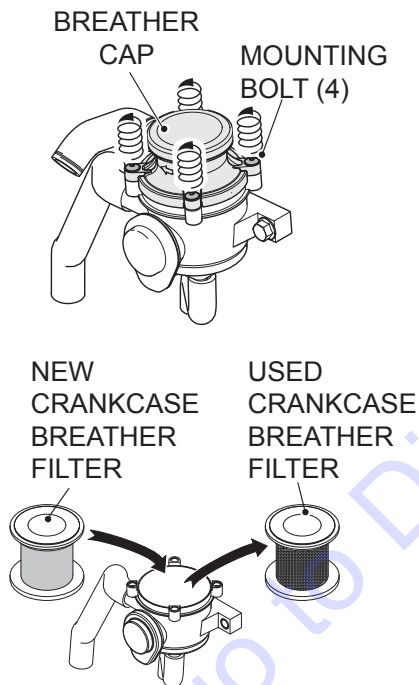

Figure 42. Replacing Crankcase Breather Filter
1. Release the four mounting bolts on the breather cap (Figure 42).